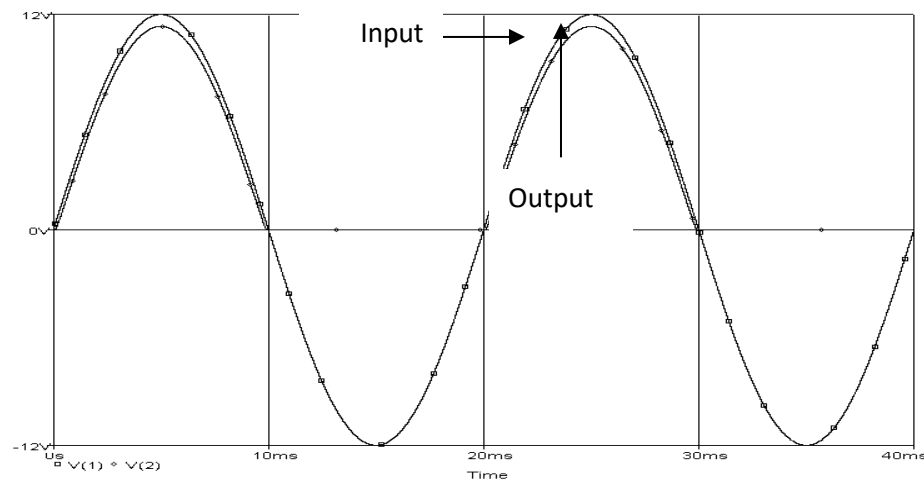

Fig: 2.2 Input, output wave-shapes of a Half wave Rectifier
3. What is the frequency of the output of the circuit shown in Fig: 2.2.